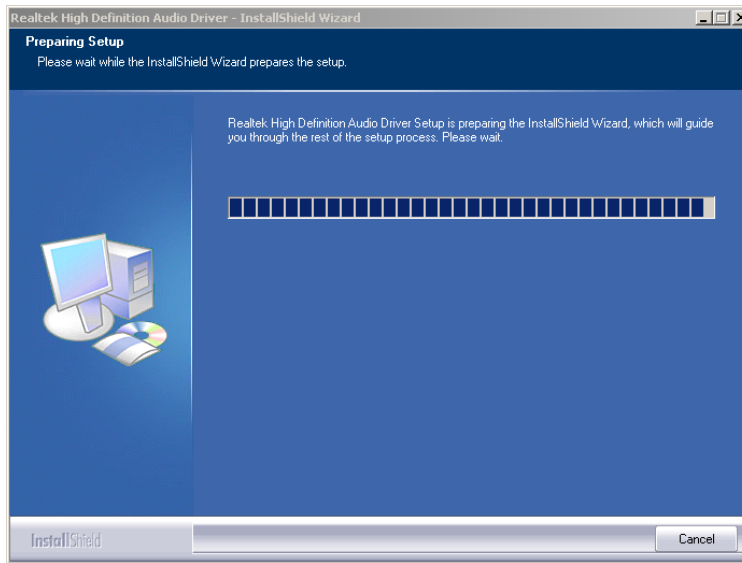

Figure 6-20: Preparing Setup Screen
- Step 5:** The **InstallShield Wizard** is prepared to guide the user through the rest of the process (**Figure 6-20**).